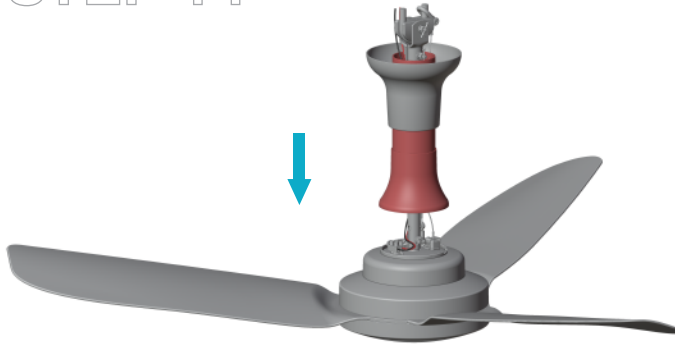

fig. 14.1
- Once the connection to operate the fan is intact, adjust the canopy top and bottom, such that it covers the shackle assembly and wirings over the controller cover, respectively. (fig. 14.1 & fig. 14.2)